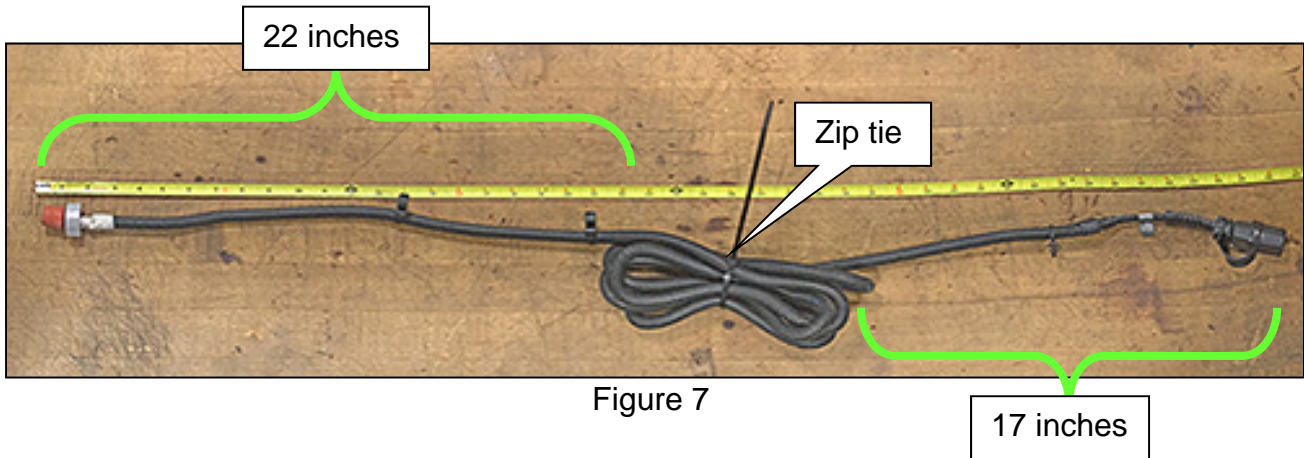

Figure 7
- Retain recoiled cord with a zip tie as shown in Figure 7.